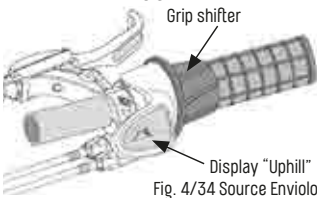

Fig. 4/34 Source Enviolo
- Clockwise rotation: Display shows a "Uphill" ("Fig. 4/ Source Enviolo" on page 34). This transmission should be selected to start or to ride uphill.